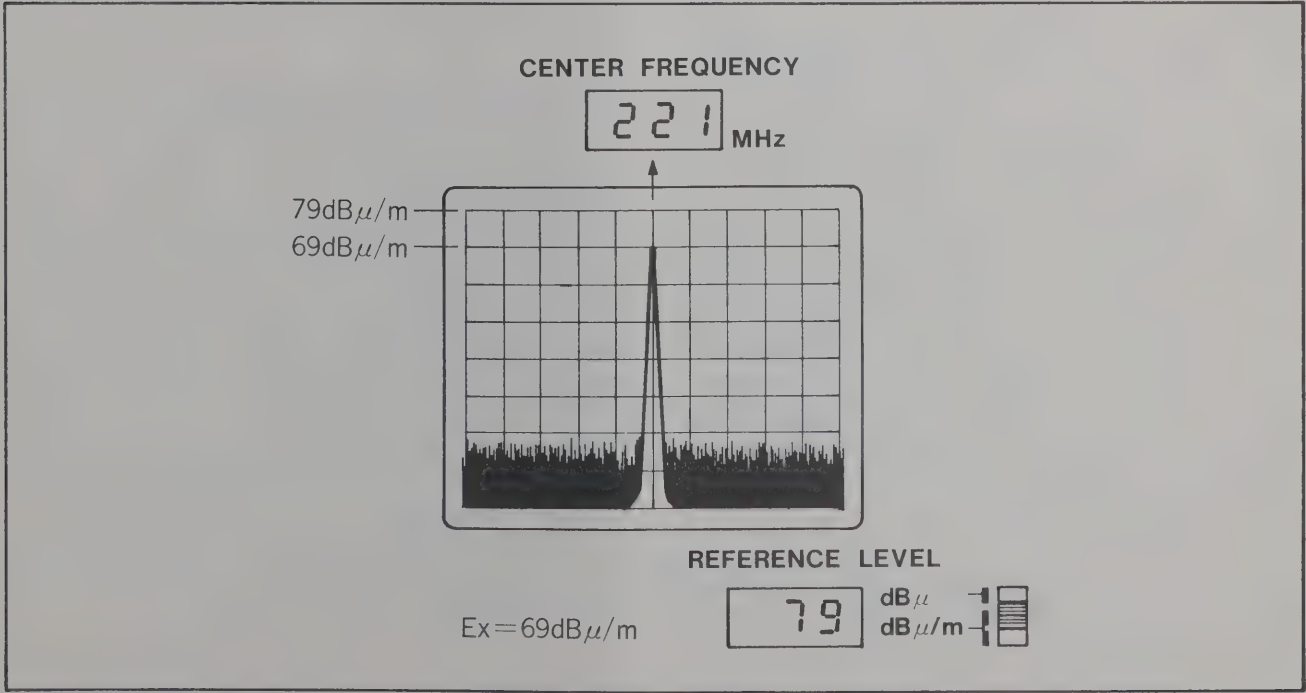

Figure 3.19 Field Strength display
**3.5.5.4** The amplitude level of the selected signal is read directly from the CRT DISPLAY in terms of dBuV/M (see Figure 3.19). Since the reference level reading includes the correct antenna (for the antenna utilized) for the selected center frequency, no additional correction factors are normally needed.